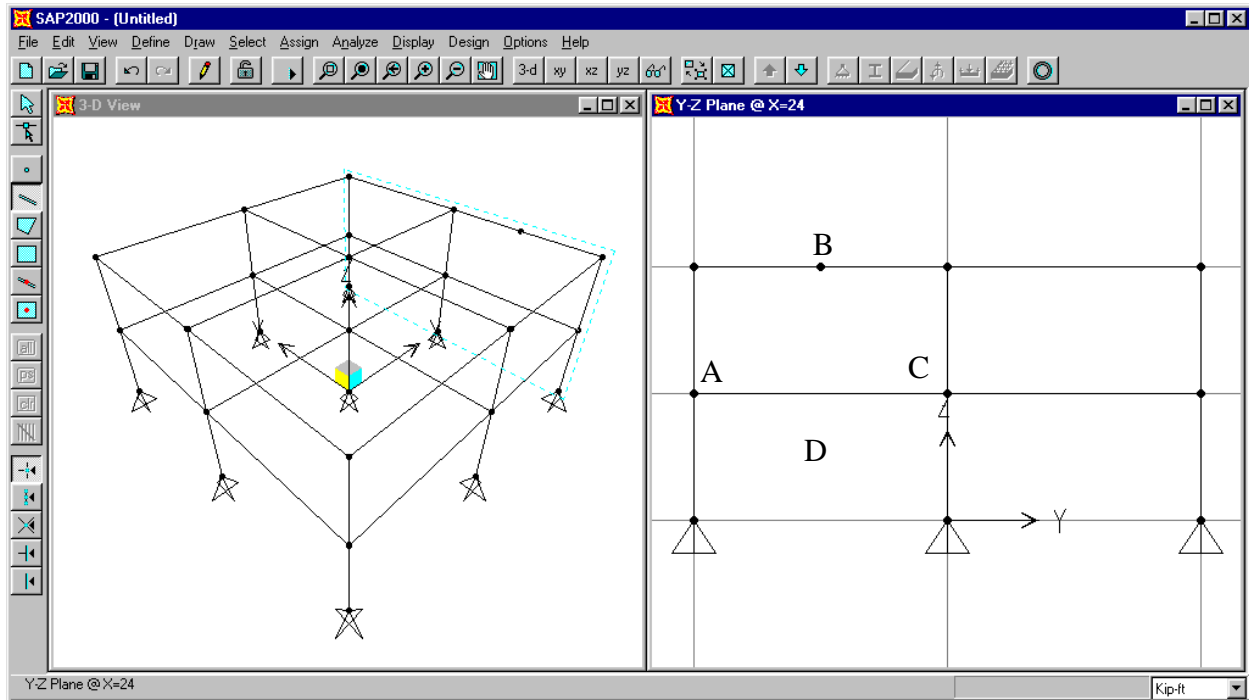
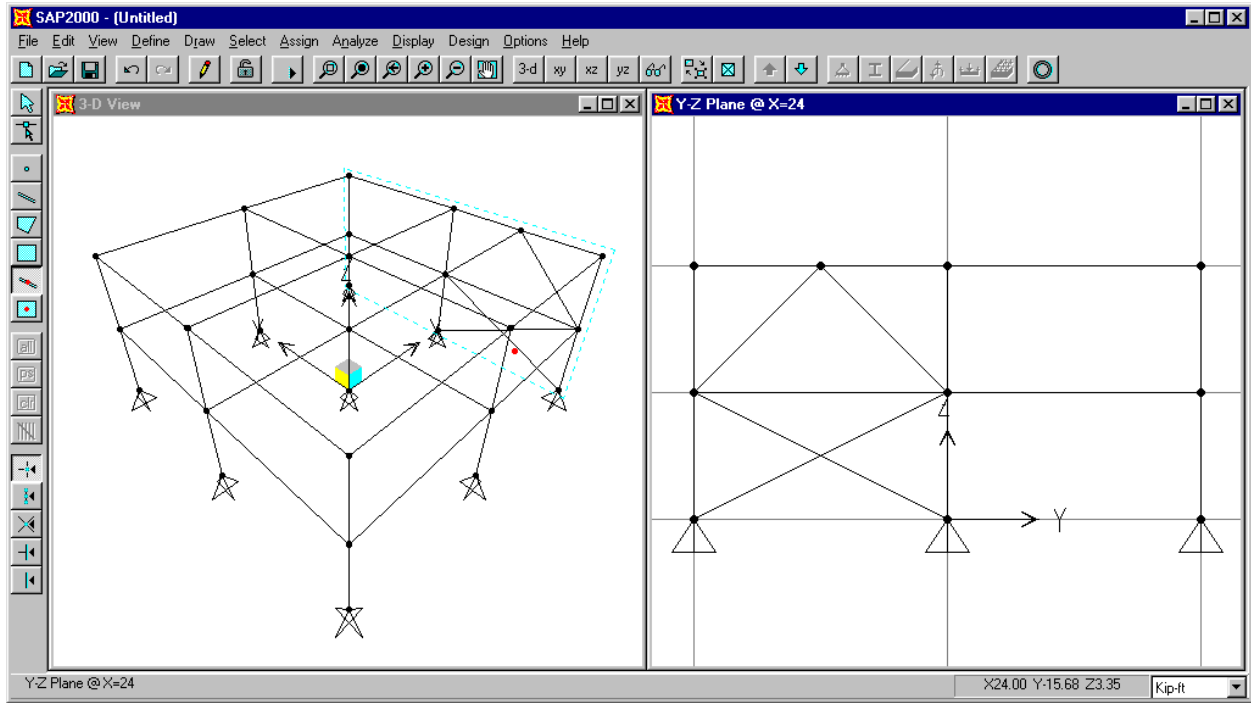

Figure C-3: Joint Labels For Drawing Chevron Brace
Figure C-4: Model After Inputting First Set of Braces
11. Make sure that the **Snap to Joints and Grid Points** button  on the side tool bar is depressed. Place the mouse pointer on the joint labeled “A” in Figure C-3 and click on the left mouse button. Note that when the mouse pointer is near the joint, it snaps to the joint, and a text box that says “Grid Intersection” appears. This is the effect of the **Snap to Joints and Grid Points** feature.
12. Place the mouse pointer near the joint labeled “B” in Figure C-3 and note that in this case the Snap To option text box just says “Point” because the joint does not occur at a grid intersection. Click on the left mouse button to draw the chevron brace element.
Note: If you wanted to, at this point you could just click on point C in Figure C-3 to draw the second brace element. If we were to do that, the start point for the brace would be at the top (point B) and the bottom point would be at the bottom (point C). Though not necessarily a problem, this would be inconsistent with how we input the first brace. In this example we will opt for consistency.
14. Click on the joint labeled “C” and then the joint labeled “B” in Figure C-3, and then press the Enter key on the keyboard to draw the second chevron brace member.
15. Click the **Quick Draw Frame Element** button  on the side toolbar. Then click in the area labeled “D” in Figure C-3 to enter the X-braces. The model now appears as shown in Figure C-4.